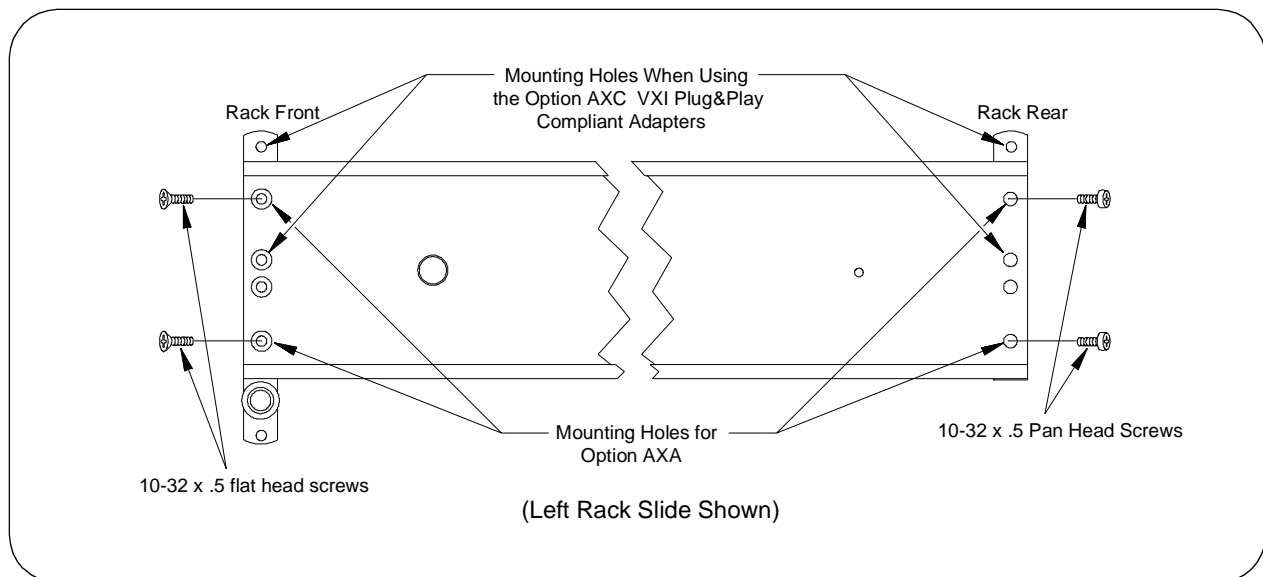

Figure 9 . Installing the Rack Slide Stationary Sections.
6. Use two 10-32 x 0.5 flat head screws to attach the stationary section to the rack's front inside column through the channel nuts. Use two 10-32 x 0.5 pan-head screws to attach the stationary section to the rear inside column (see Figure 9). Repeat for the opposite side.